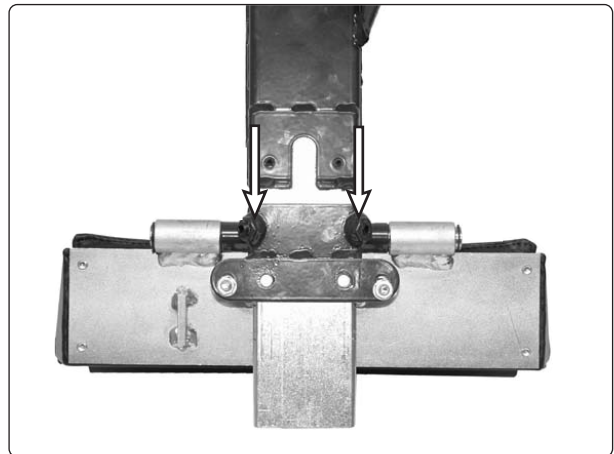

Fig. 21. The height setting of the leg rest is locked using two locking screws.
1. Loosen the two locking screws on the foot plate, see Fig. 21.
5. Loosen the two locking screws on the foot plate, see Fig. 21.